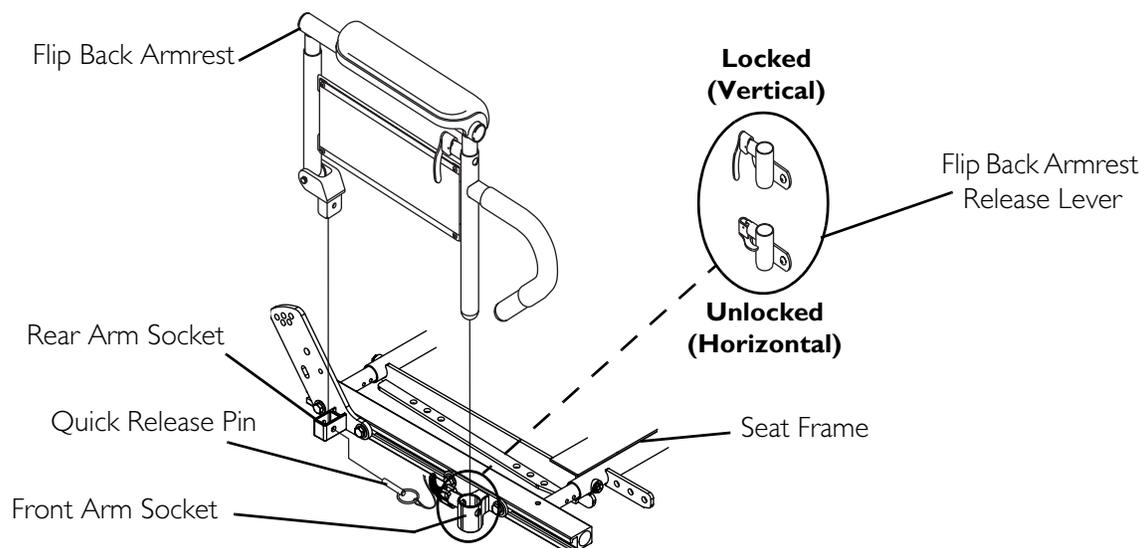

FIGURE 6.1 Installing/Removing Flip Back Armrests
NOTE: For this procedure, refer to FIGURE 6.1.
3. Lock flip back armrest by pressing flip back armrest release lever into the locked position (FIGURE 6.1).
1. Unlock flip back armrest by pulling flip back armrest release lever into the unlocked position (FIGURE 6.1).